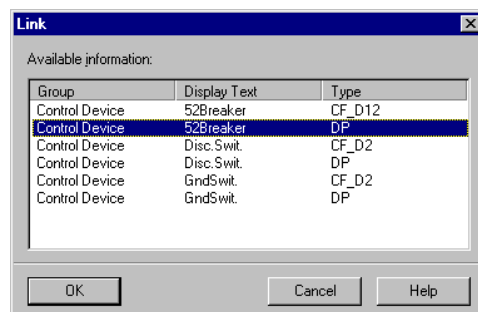

Figure 5-47 DIGSI® 4, Selection Window for Switching Equipment (example)
- The information corresponding to the equipment and configured previously in the configuration matrix can now be selected in a **Link** dialog window (see Figure 5-47), from which the user may click on the desired option and confirm with **OK**. In this manner, the user may link the graphical diagram with configuration settings.